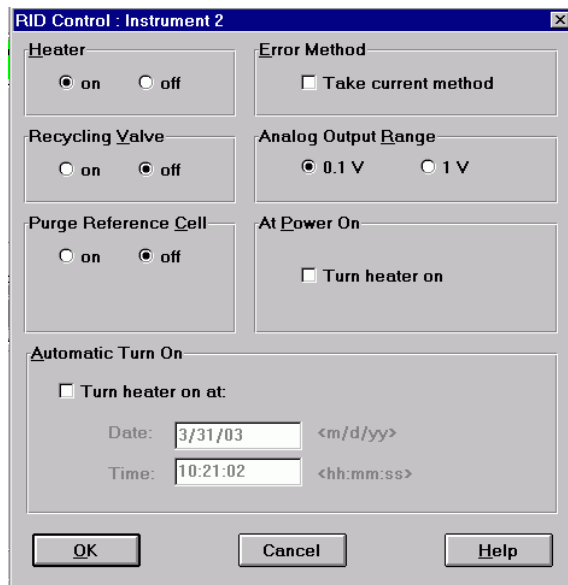

Figure 31 RID Baseline Check Control
- 9 Turn the heater **ON** and purge the detector reference cell for 20 minutes as shown in Figure 31 on page 80: